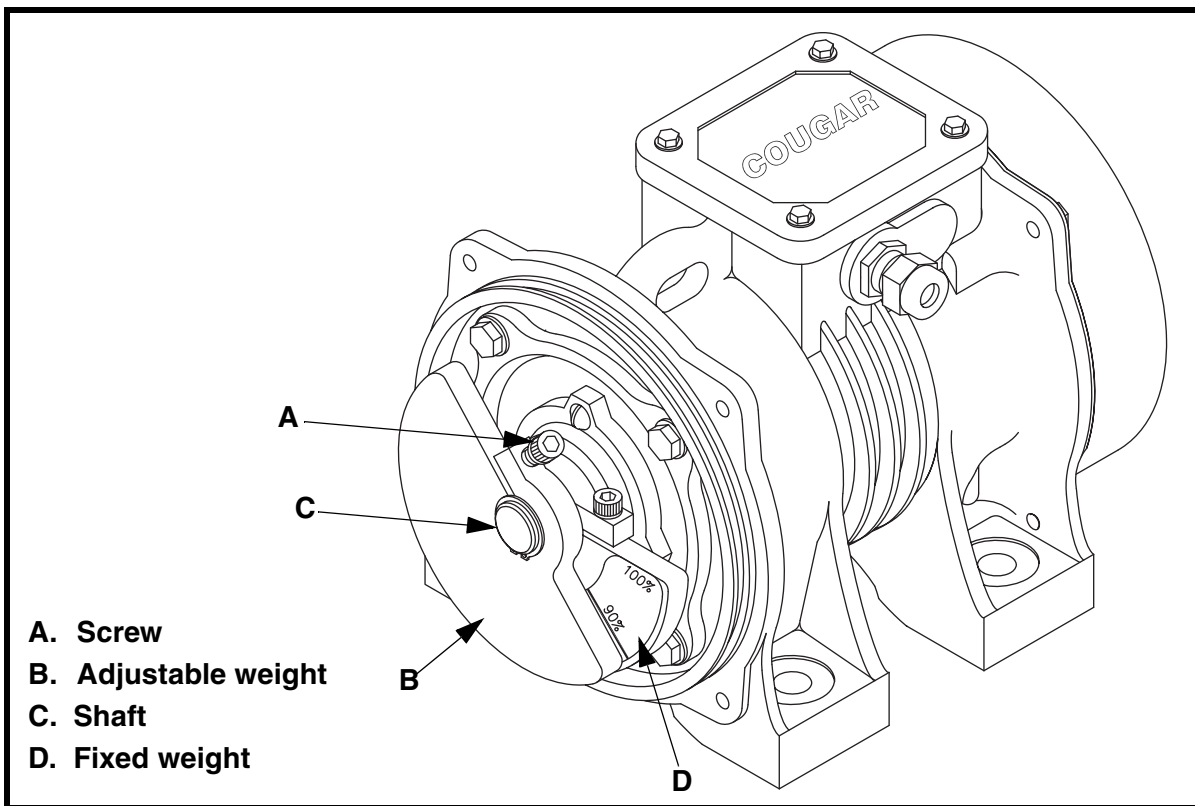

Figure 6. Adjusting Eccentric Weights
3. Loosen screw (A, Figure 6) so adjustable weight (B) will rotate around shaft (C).